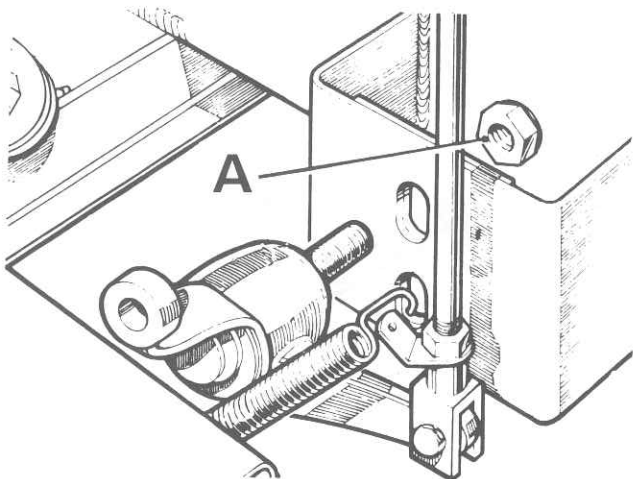

Fig. 9.16. Handbrake relay lever
- 3 Remove the nut securing the relay lever to the chassis and withdraw the lever (Fig. 9.16). Disconnect the return spring.